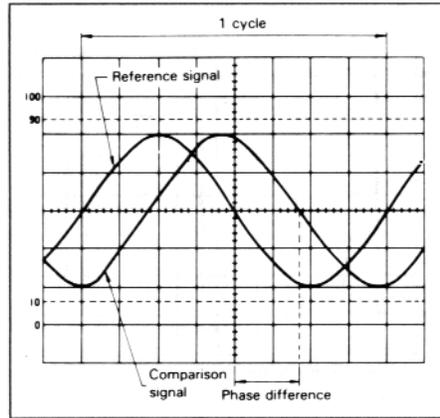

Fig. 35. Phase difference measurement.
(Refer to Fig. 35)
3. Use the vertical position controls to position the waveforms in the vertical center of the display. Use the Time/Div and variable time base controls to adjust the display so that one cycle of the reference signal occupies 8 divisions horizontally (see Fig. 35). The trigger level and horizontal position controls are also useful in achieving this display. The display should be as shown in Fig. 35, where one division now represents 45° in phase.
For the example shown in Fig. 35, the horizontal distance is 1.7 divisions. Thus, the phase difference is calculated as follows: